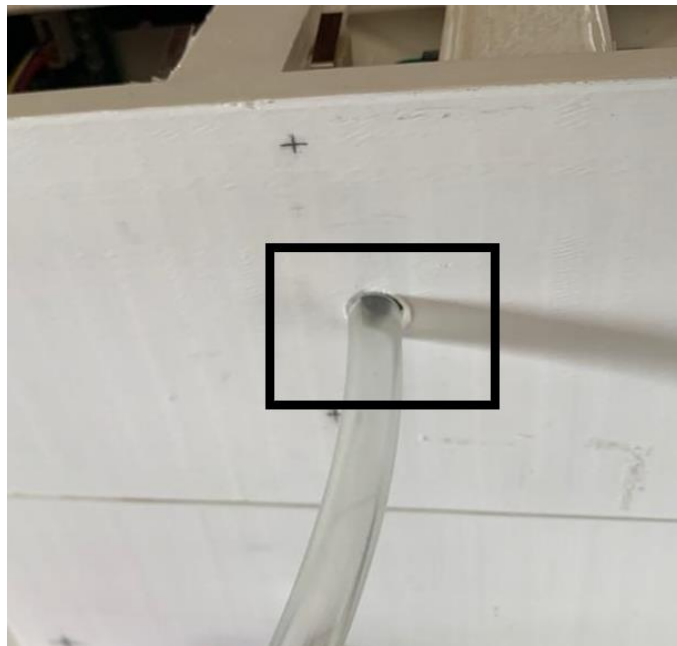

Figure 5 Feeder Device, Water access point
2. **Water access point**, small pipe to connect the water valve of the **Feeder Device**, Fig.5.